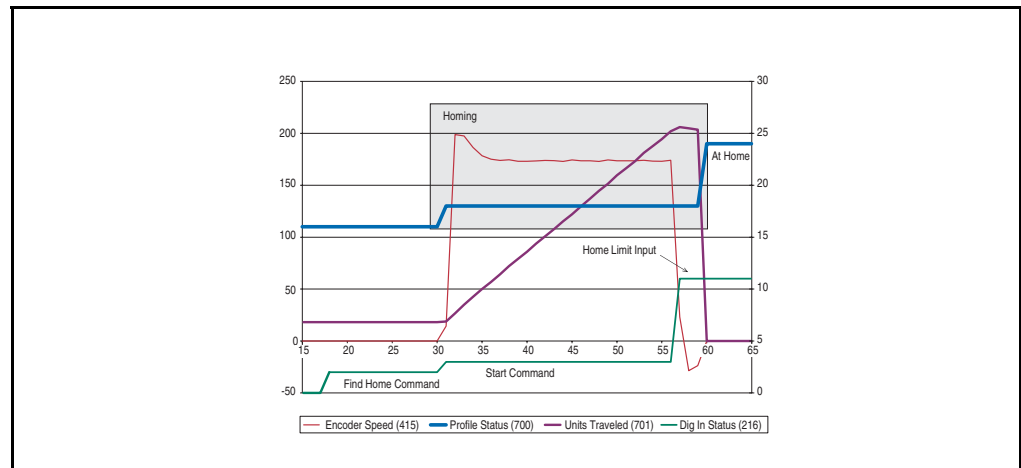

Figure 13.9 – Homing to a Limit Switch
Figure 13-9 shows the sequence of operation for homing to a limit switch with encoder feedback (without a marker pulse). Encoder Z Chan (423) must be set to “Pulse Input” or “Pulse Check.”